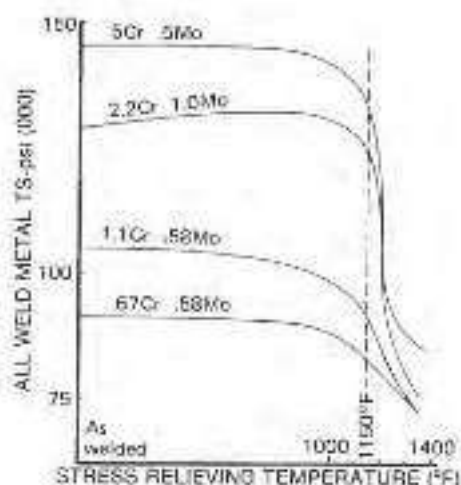

Figure 2
- G Weld strengths of Cr-Mo deposits decrease substantially with stress relieving temperatures over 1150°F. See Figure 2.